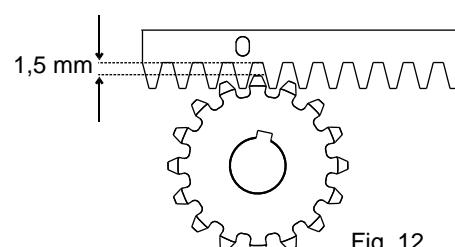

Fig. 12
**6.6.** To avoid that the door weights down on the pinion (Fig.12) lift up the whole rack about 1,5 mm.